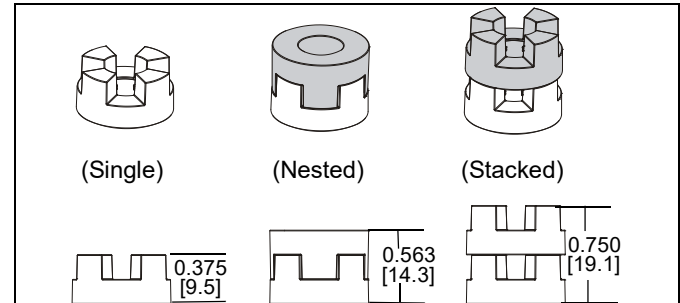

Figure 16
**NOTE:** The nesting spacers (WMA) may be used separately, or put two together in different configurations to create different size spacers. (See Figure 16)